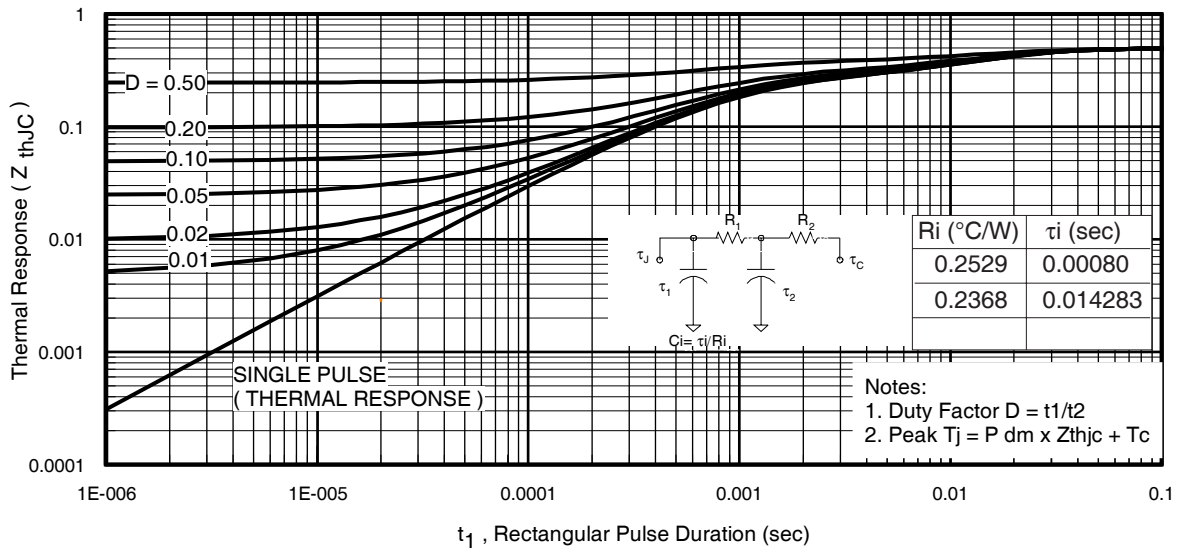

Fig 11. Maximum Effective Transient Thermal Impedance, Junction-to-Case
- ① Repetitive rating; pulse width limited by max. junction temperature. (See fig. 11).
- ② Limited by T_{Jmax} , starting $T_J = 25^\circ\text{C}$, $L = 0.12mH$
$Z_{thJC}(D, t_{av})$ = Transient thermal resistance, see figure 11)